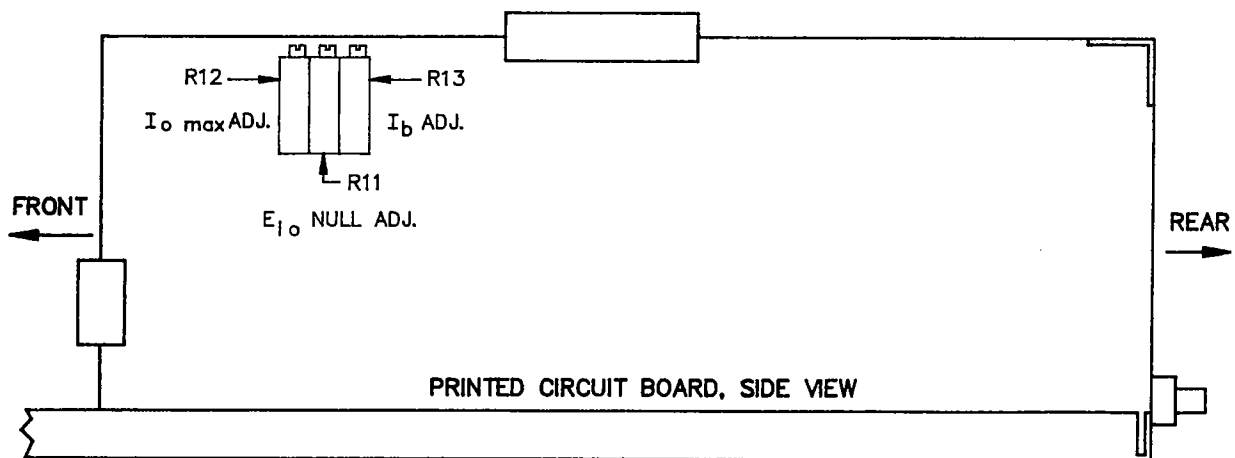

FIGURE 2-1 LOCATION OF INTERNAL CONTROL
- c) INTERNAL ADJUSTMENTS AND CALIBRATIONS: Refer to FIG 2-1 and TABLE 2-1
- c) With S1 "open", and $R_{VC} = 5K$ ohms for example, approximately 5 volts will be read-out on M1. Adjust "I_b Adj." (control current calibration, R13, see FIG. 2-1 for location) until exactly 5 volts are read-out on M1.
- d) Close S1 and note deviation from zero on M1 (approx. 2 to 8 mV negative). Adjust "E_{io} null" (zero adjustment, R11, see FIG. 2-1 for location) until exactly zero volts are read-out on M1.